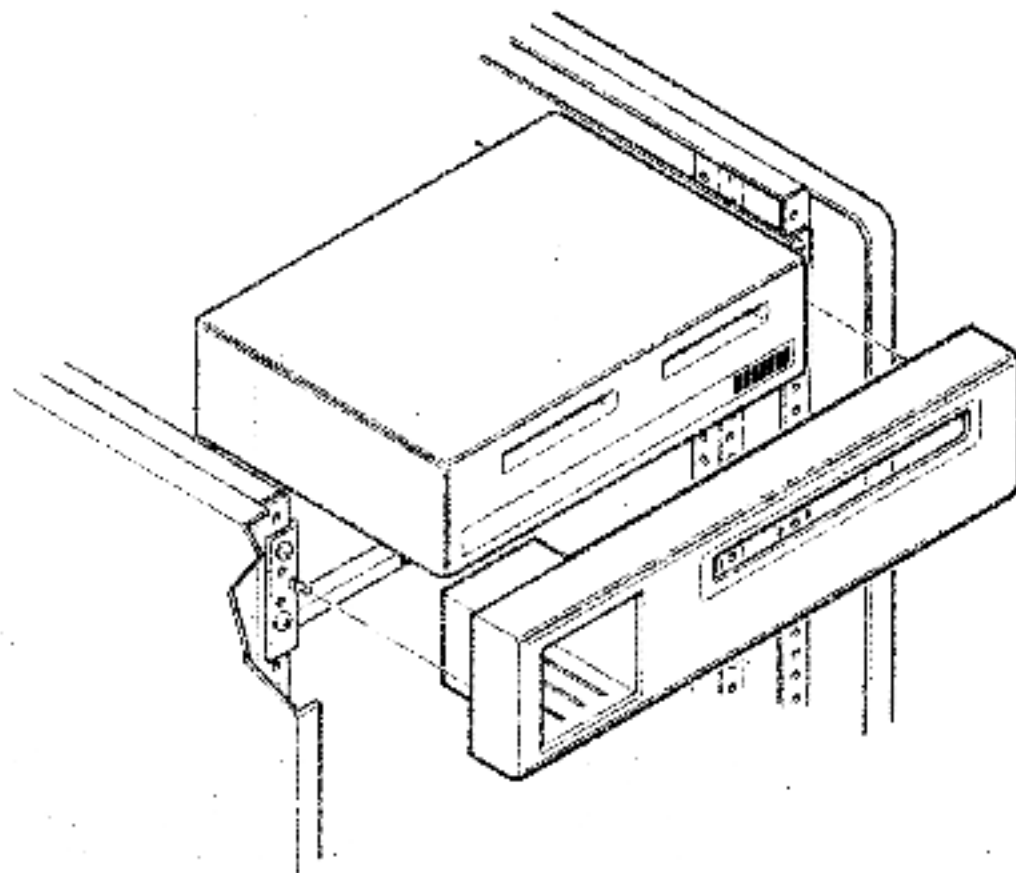

Figure 4-8 Installing the Bezel
11. Install the bezel by pushing into place over the ball studs (Figure 4-8).